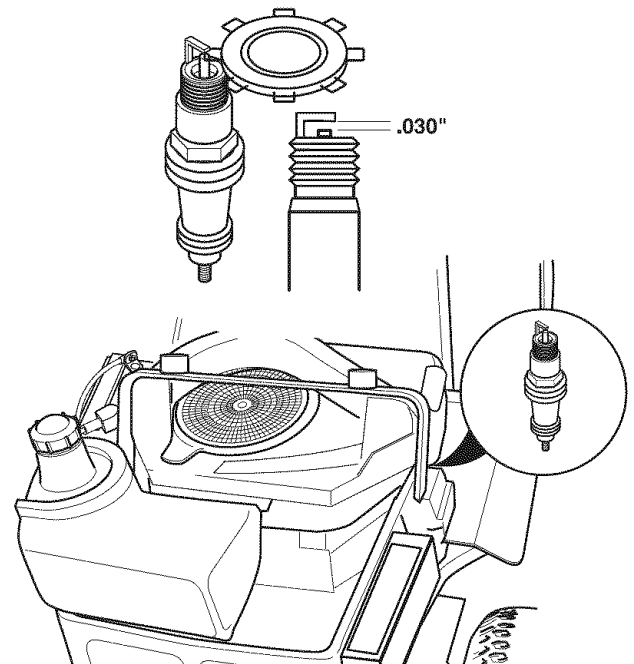

Figure 29. Spark Plug Gapping
4. Check the spark plug gap. It should be .030" (see Figure 29).